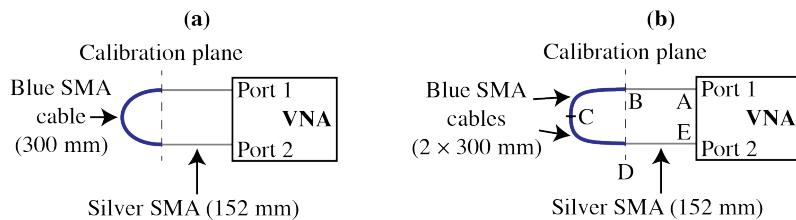

Figure 8: Cable transmission measurement setup. A-E: possible sources of reflections.
6. (Lab) Connect one blue SMA from port 1 to port 2, as in fig. 8(a).
11. What is the return loss (RL) of the cable at 1 GHz? $RL = \underline{\hspace{2cm}}$ dB.
14. (Lab) The insertion loss (IL) of this cable describes the ratio of power available at the cable output to the cable input power. What is the insertion loss at 1 GHz? $IL = \underline{\hspace{2cm}}$ dB.
15. (Lab) Double the cable length, as in fig. 8(b). You need to use two SMA adapters and the through calibration standard. What is the insertion loss at 1 GHz? $IL = \underline{\hspace{2cm}}$ dB.